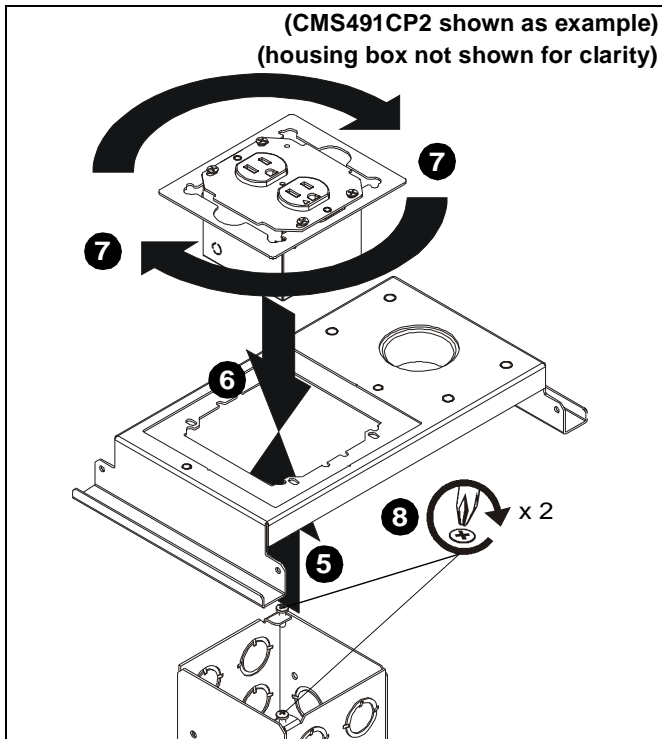
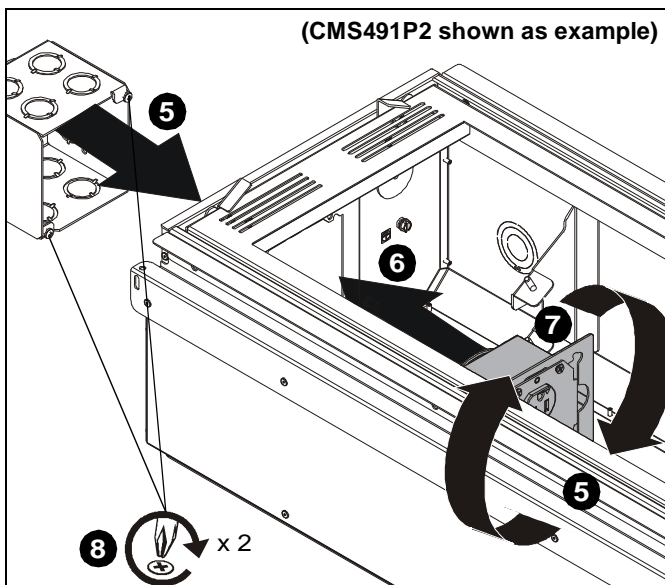

Figure 3
Figure 4
5. Position the EGX-SF2 housing into side opening of CMS491/CMS492; (See Figure 4) OR, into top of projector mount plate in the CMS491C/CMS492C underneath the opening where the outlet box will be reattached. (See Figure 3) OR (See Figure 4)
6. Reinstall outlet box in the EGX-SF2 housing. (See Figure 3) OR (See Figure 4)
7. Rotate outlet box clockwise until it is in proper position to be secured to the EGX-SF2 housing. (See Figure 3) OR (See Figure 4)
8. Tighten two Phillips screws to secure outlet box to EGX-SF2 housing. (See Figure 3) OR (See Figure 4)